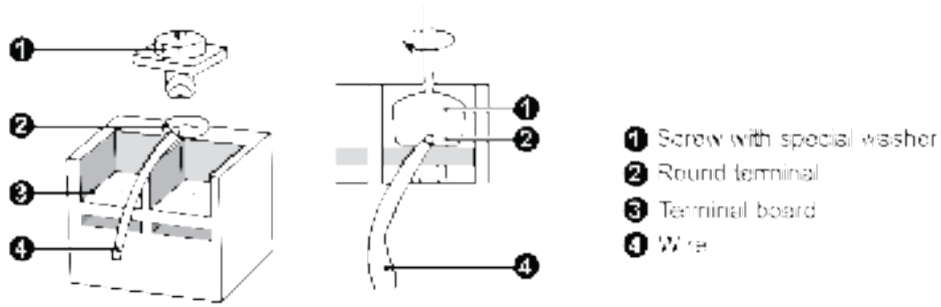

Fig.4.23
- (2) For strand wiring (Fig.4.23).
- 4) Position the round terminal wire, and replace and tighten the terminal screw with a screwdriver (Fig.4.23).